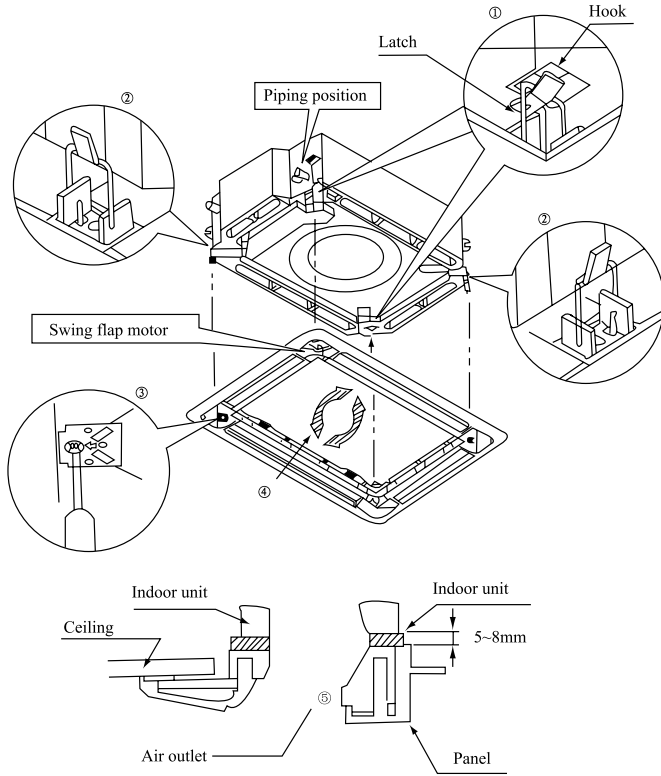

Fig. 22
1. Set the panel to the indoor unit body by matching the position of the swing flap motor of the decoration panel to the piping position of the indoor unit as shown in Fig.22.
- ①. Hang the latch, which is located on the opposite side of the swing flap motor on the panel, temporarily to the hook of the indoor unit. (2 Positions)
- ②. Temporarily hang the remaining 2 latches to the hooks on the sides of the indoor unit. (Be careful not to let the swing motor lead wire get caught in the sealing material.)
- ③. Screw all 4 hexagon head screws located right beneath the latches in approximately 15mm. (Panel will rise)
- ④. Adjust the panel by turning it to the arrowed direction in Fig.22, so that the ceiling opening is completely covered.
- ⑤. Tighten the screws until the thickness of the sealing material between the panel and the indoor unit body is reduced to 5~8 mm.